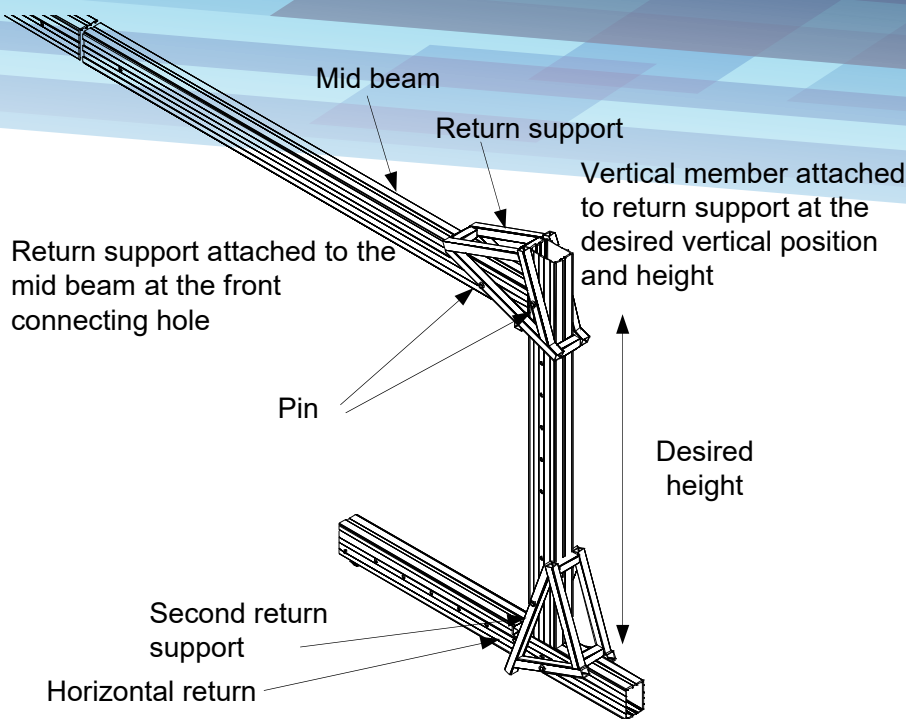

Figure 22. Return Support – Mid Beam Assembly
2. Attach the first Return Support (WS OR 84) to the Mid Beam by pinning it to the front connecting hole by using Pins (PC 42 07) (see Figure 22).
3. Attach the Vertical Member (WS OR 85) to the first return support such that it is pinned in the desired vertical position and vertical length (see Figure 22).
4. Attach the second Return Support (WS OR 84) to the end of the vertical member using pins. Also, attach the Horizontal Return (WS OR 86) to the return support as shown in Figure 22.